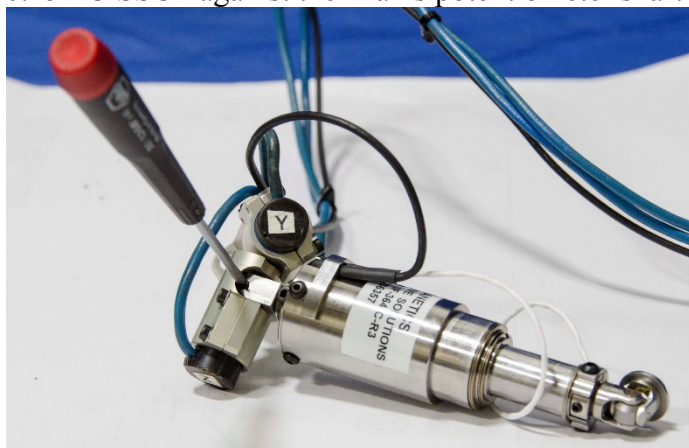

Figure 6-19. Tighten set-screw for Z-axis potentiometer for Lower thorax IR-TRACC
6.2.2.13 Assure that the Z-axis rotary potentiometer will not pass through a dead band when moved through its range of motion in the thorax. Rotate the shaft until the potentiometer output voltage is approximately 0 volts so that the potentiometer is near mid-range. Once this is complete, insert and tighten the M2.5 x 0.45 x 3 SSCP against the Z-axis potentiometer shaft (Figure 6-19).